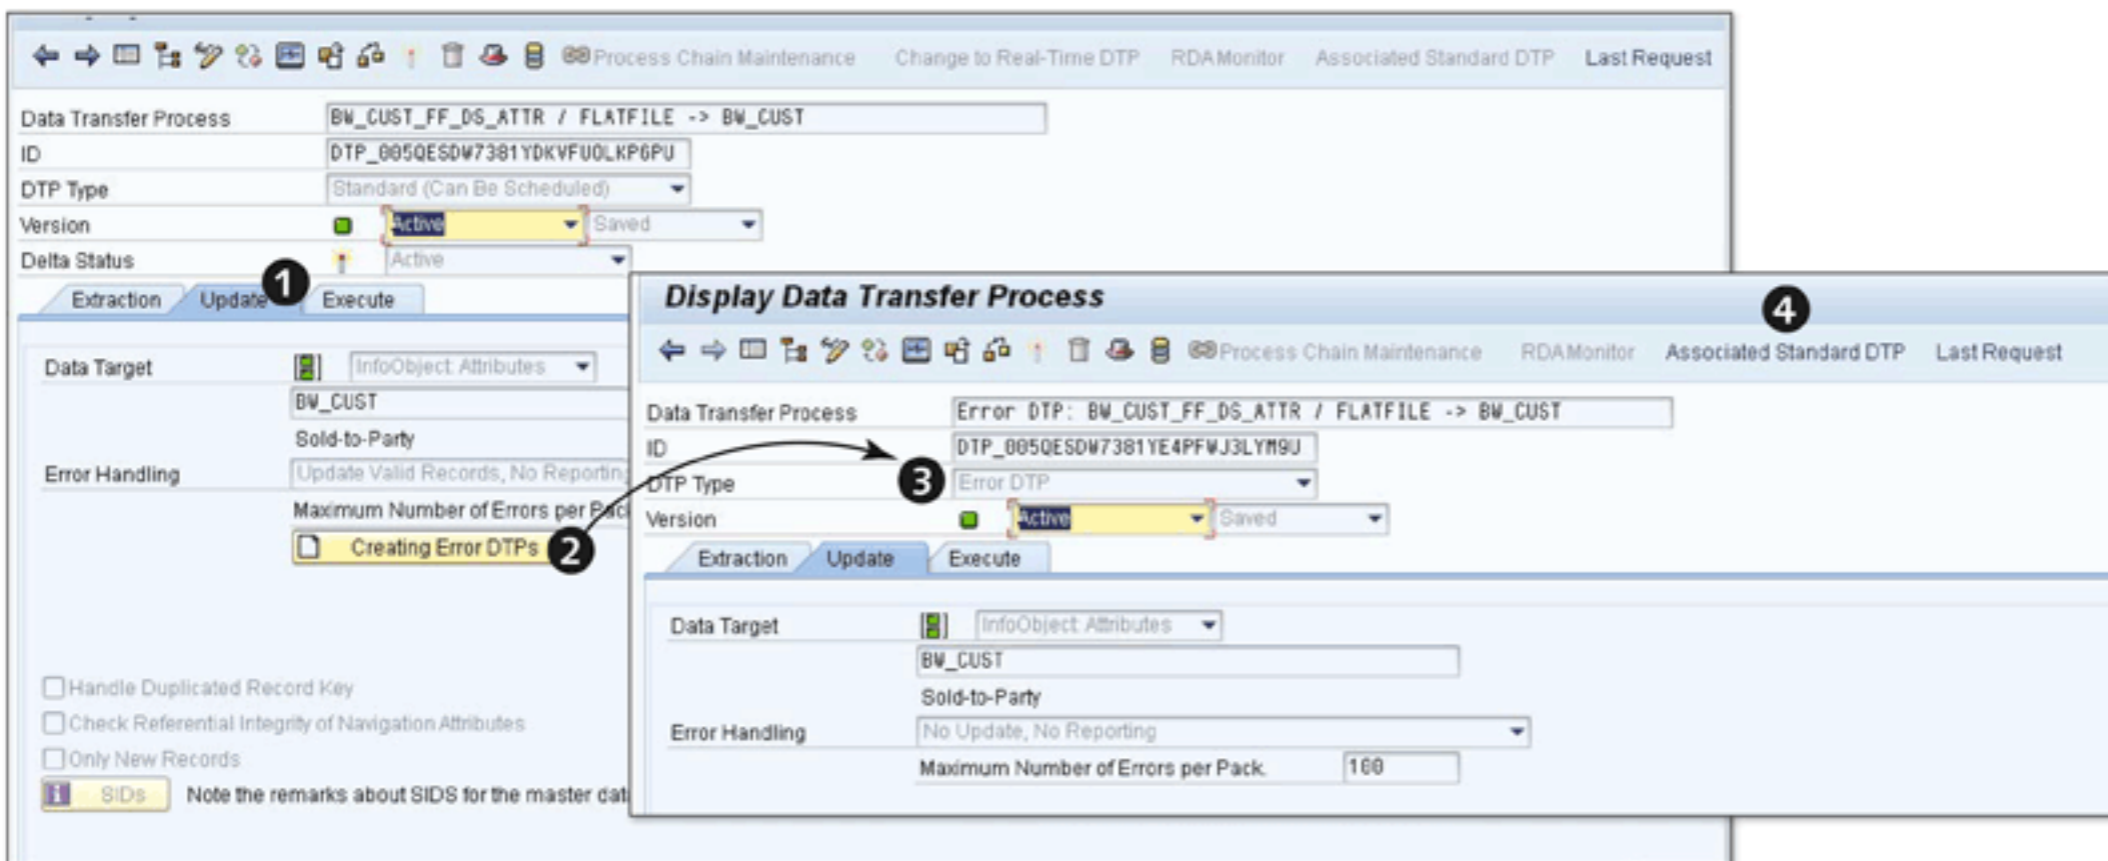

Figure 7.85 Creating an Error DTP
To fix the errors in this example, you must load the BK and AP values as master data for InfoObject OCUST_GRP1; assume that this has now been done. After the errors have been corrected, you can create the error DTP. In the DTP maintenance screen, select the UPDATE tab shown in ❶ of Figure 7.85. Click on the CREATING ERROR DTP button (❷), and the error DTP is created (❸). (You can switch to a standard DTP by clicking on the ASSOCIATED STANDARD DTP button (❹).)